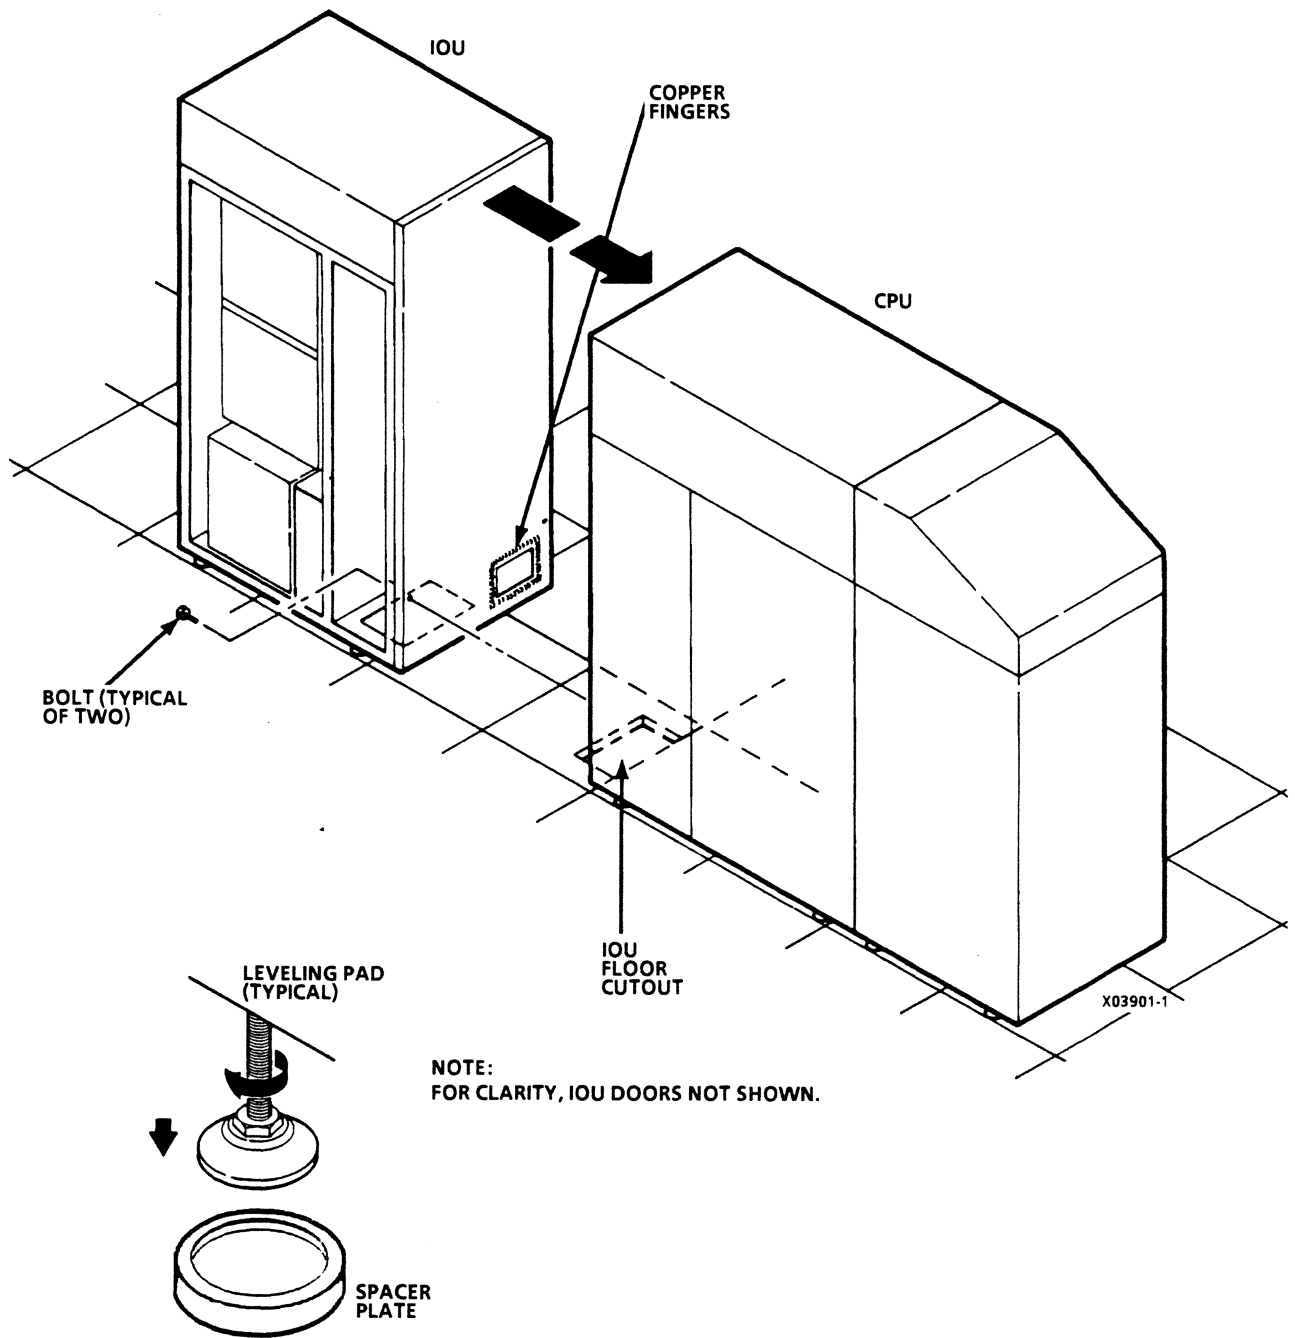

Figure 2-11. IOU Bolting
- ___ 2. Inspect copper fingers around interface opening on IOU (figure 2-11). Replace any 25 mm (1 in) or greater section of adjacent fingers that are missing or deformed and will not compress between units. (Replacement copper fingers are supplied with equipment.)